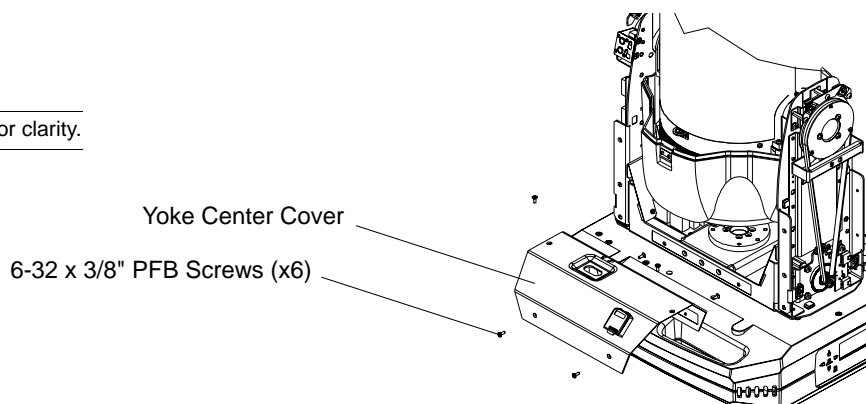

Figure 2-15: VLX Wash Yoke Center Cover
- Step 3. As shown in Figure 2-15, remove Yoke Center Cover by removing six 6-32 x 3/8" PFB screws.